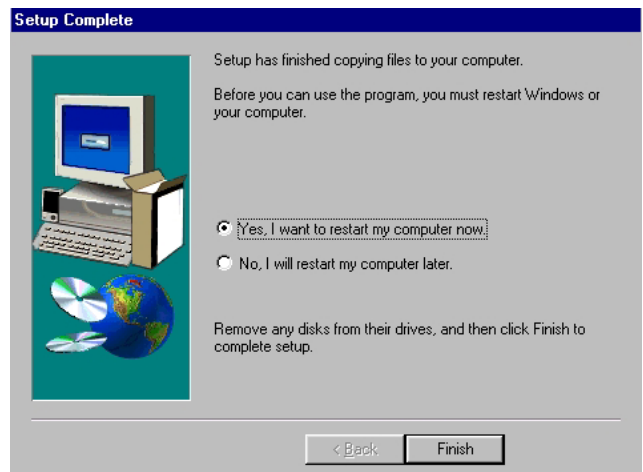

Figure 3-27
11. Follow all on screen instructions using the default directory for installation. When prompted re-boot the aligner. (Figure 3-27)